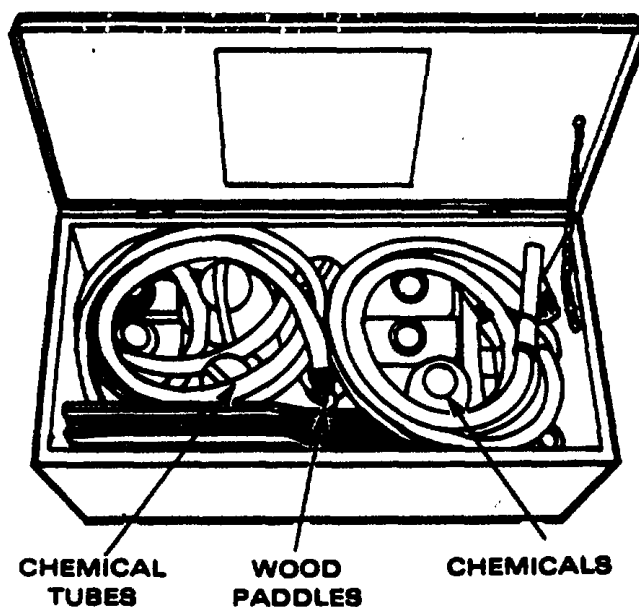

Figure 2-37. Wood Paddles and Chemical Tubes
u. Wood Paddles and Chemical Tubes. Open Storage box No. 3 (fig. 2-37) and remove the wood paddles and four sets of chemical tubes.
- (1) Examine tubes for damage and make sure all tubes are secured on the pump and valves.
- (2) Check strainers. They cannot be clogged. Must be tightly fastened to tubes.